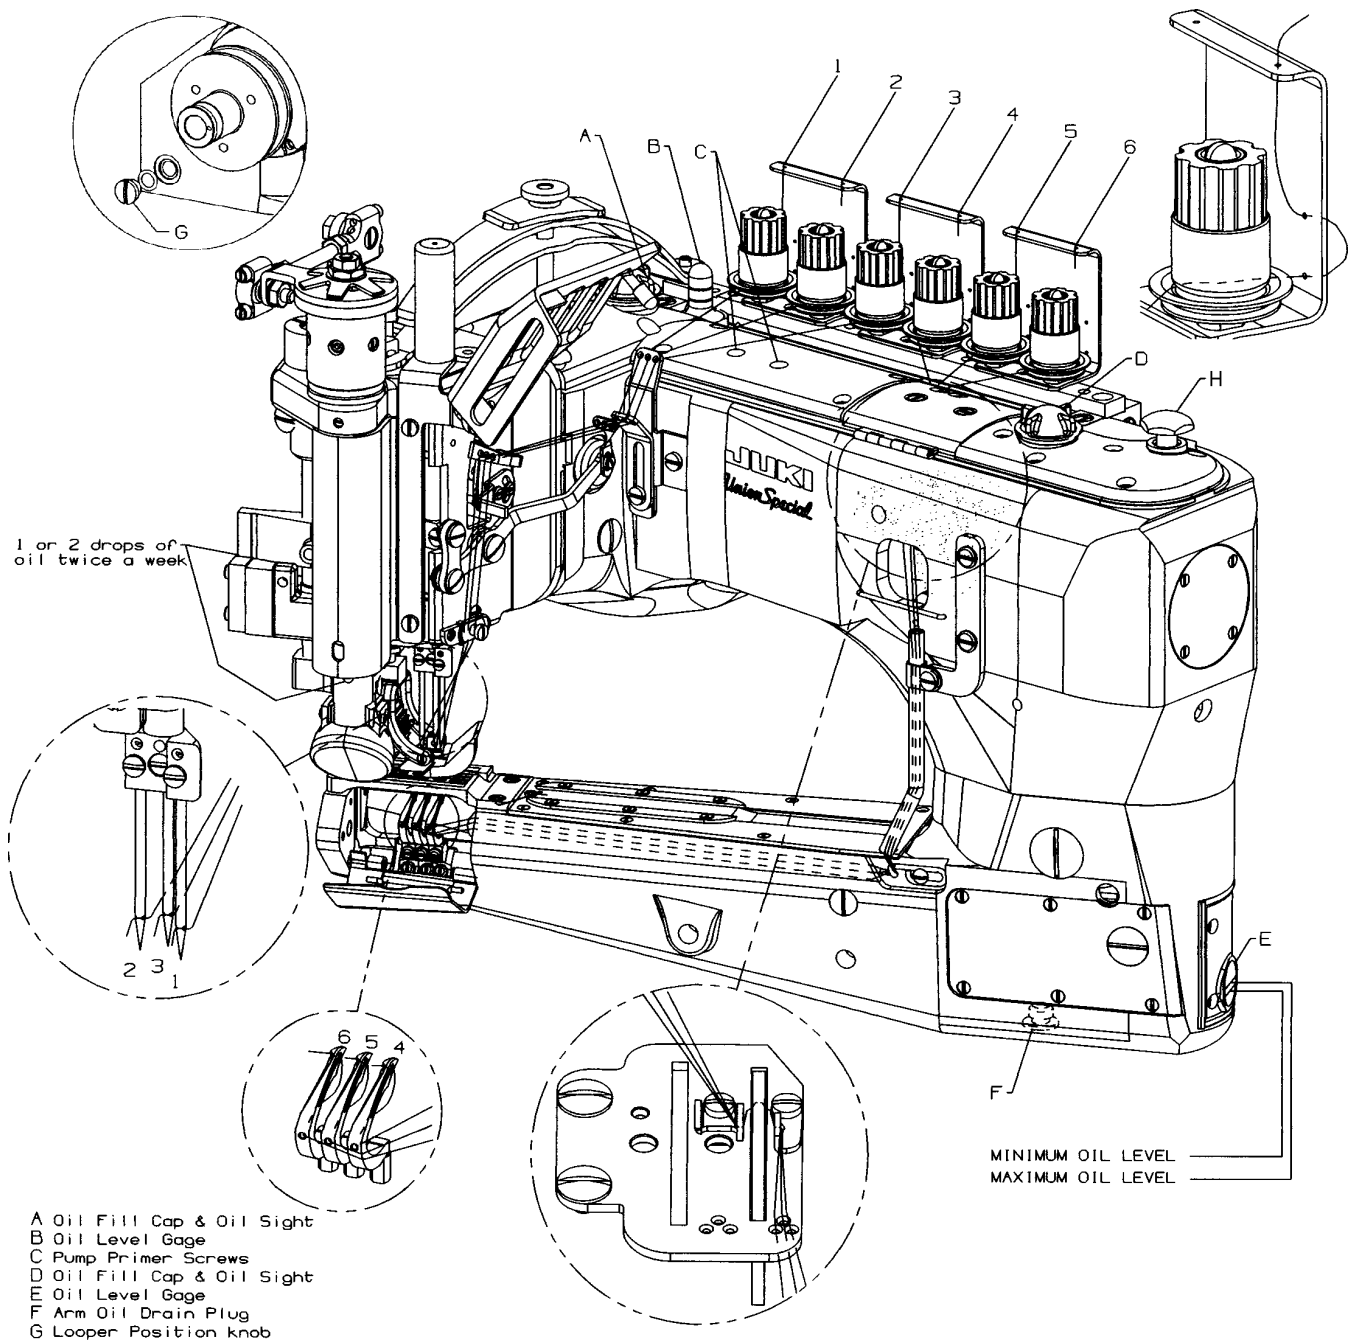

FIG. 1A
Oil is filled at oil caps (A & D, Fig. 1A, B). The level is checked at sight gauges (B) and (E). Maintain the oil level between the red lines of the gauges.
A convenient means for threading the looper has been provided. When loopers are at the left end of their travel, press the knob (H, Fig. 1A, B) and loopers will back out of position, leaving them easily accessible. Thread the machine as illustrated in (Fig. 1A, B). After threading, push loopers back into position.